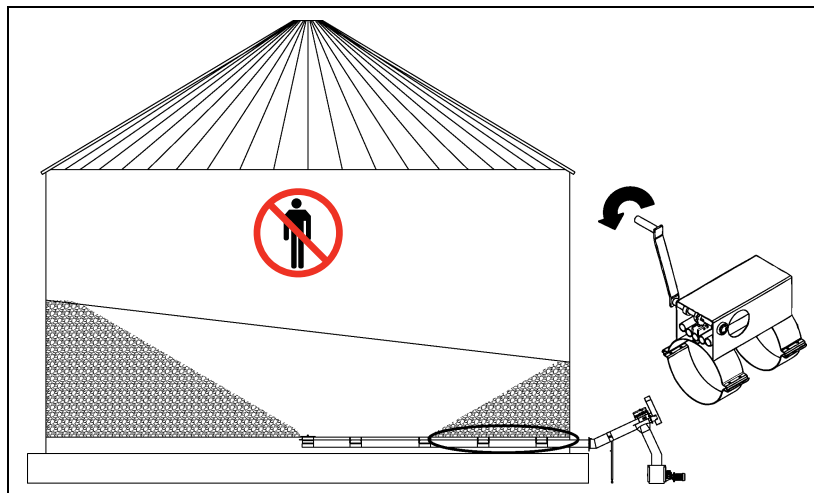

Figure 6D
4. Open outer intermediate wells. (See Figure 6D.)